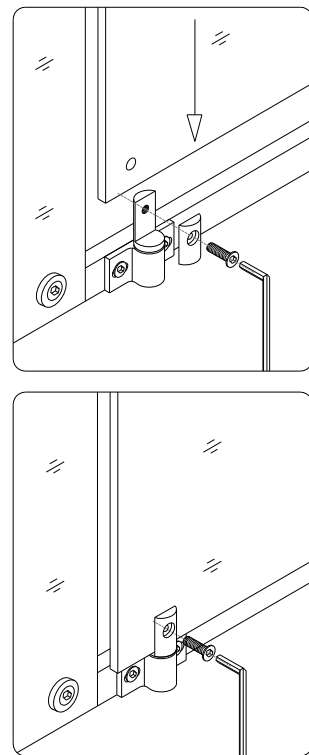

Fig 8
7. Remove the back fastener from the pivot assemblies. Set the **Glass door (06)** so the holes are aligned. Make sure the rubber gaskets are in between the glass and the metal parts. Secure the back fastener with the provided bolt. Repeat the same steps for the second pivot assembly. After the pivot assemblies are installed open and close the door to make sure it's aligned. See Fig 8 for details.